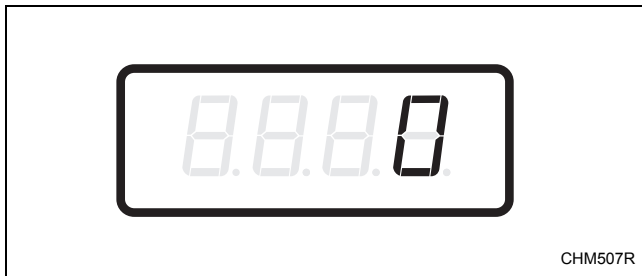

Figure 19
2. When “SA15” appears in the display, press the START (enter) keypad. There are five digits in the Special Vend A Vend Price #5. The fifth digit will appear in the display and will flash one second on and one second off. Refer to *Figure 19*.